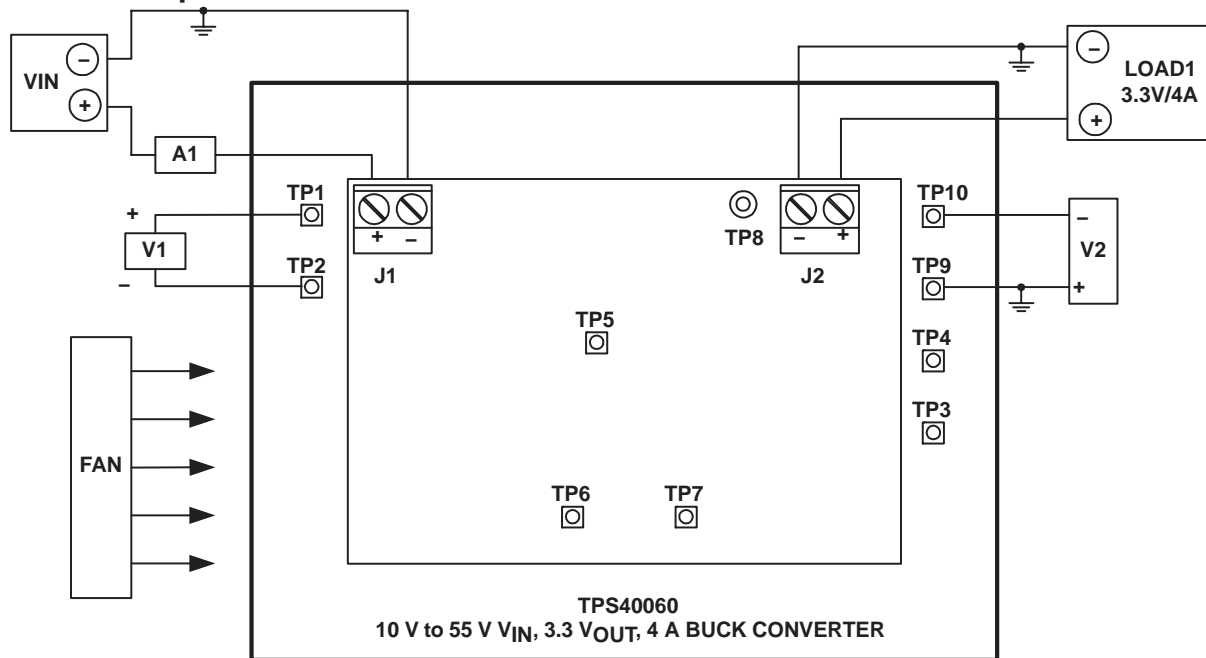

Figure 2. EVM Test Set-Up
Shown in Figure 2 is the basic test set up recommended to evaluate the TPS40060EVM. Please note that although the return for J1 is the same as the J2 return, the  $V_{IN}$  and LOAD1 connections should remain separate as shown below.
The input voltage source shall be a variable DC source capable of supplying between 0 Vdc and 55 Vdc at no less than 2 Adc, and connected to J1 as shown in Figure 2. For fault protection to the EVM, good common practice is to limit the source current to no more than 2 Adc for a 10 V to 55 V input. A DC ammeter, A1 should also be inserted between VIN and J1 as shown in Figure 2 for input current measurements. A DC voltmeter, V1 should be connected to TP1 and TP2 for  $V_{IN}$  measurements.
A network analyzer can be connected directly to TP3 and TP4 shown in Figure 2. The TPS40060EVM provides a 50  $\Omega$  resistor (R9) between the output and the voltage feedback to allow easy non-invasive measurement of the control to output loop response.
2. Prior to connecting the DC input source,  $V_{IN}$ , it is advisable to limit the source current from  $V_{IN}$  to 2-A maximum. Connect the ammeter A1 (0 A to 2 A range) between  $V_{IN}$  and J1 as shown in Figure 2. Make sure  $V_{IN}$  is initially set to 0 V.
3. Connect LOAD1 to J2 as shown in Figure 2. Set LOAD1 to constant current mode to sink 0 A dc before  $V_{IN}$  is applied.
4. Connect the voltmeter, V2 to TP9 and TP10 as shown in Figure 2.